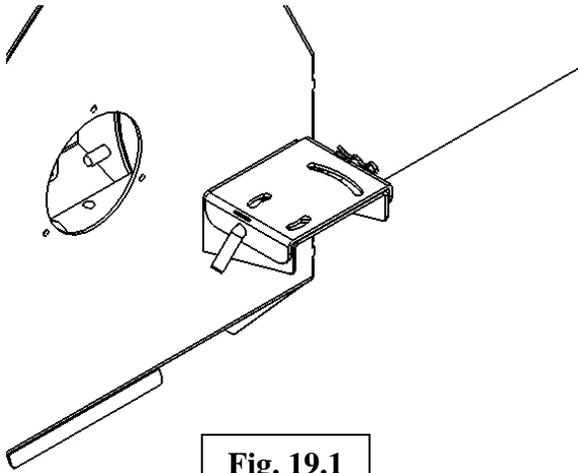
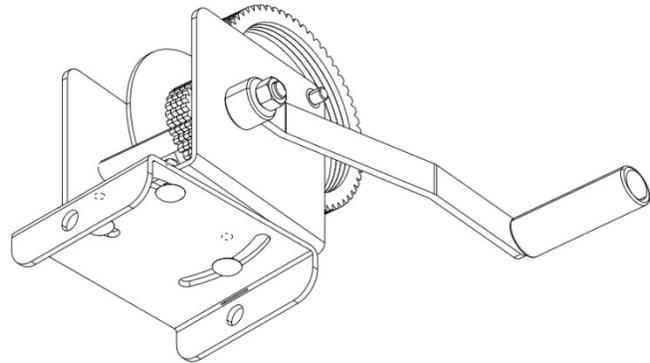
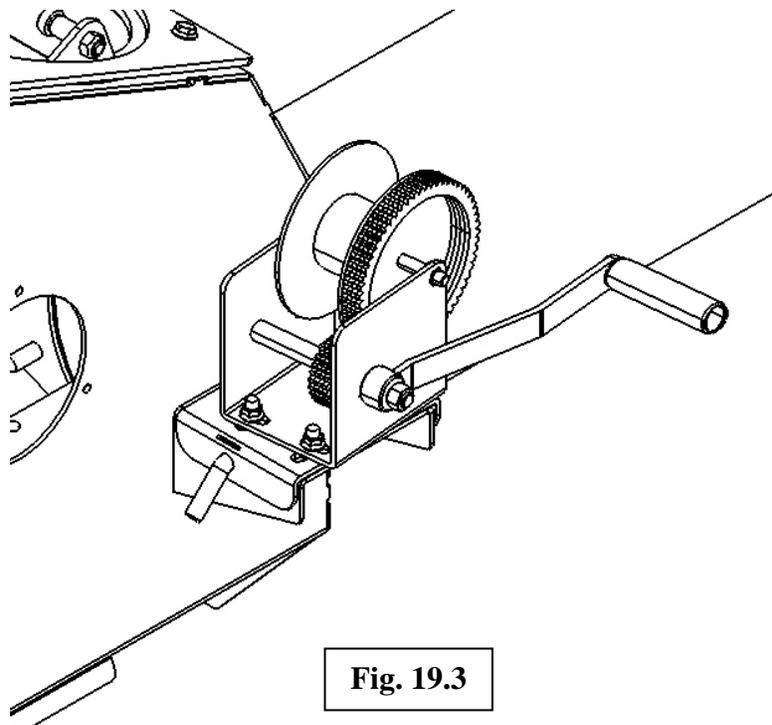

Fig. 19.1
Fig. 19.2
Fig. 19.3
Next the hopper winch will be mounted. On the right side of the infeed housing there is a bracket with a pin through it. (Fig. 19.1) Remove pin & set aside. Remove bracket & attach to winch using (3) 3/8" x 1" carriage bolts & flange nuts as shown in fig. 19.2. Tighten bolts by hand only for now. Slide the winch handle onto winch with spring & nut. Tighten nut to secure handle. Place winch on top of bracket welded to the infeed housing and secure with the pin. Angle the winch so it is centered with the top bracket (hopper arm bracket) on the 1st tube as shown in figure 19.3. Tighten the (3) 3/8" x 1" carriage bolts.